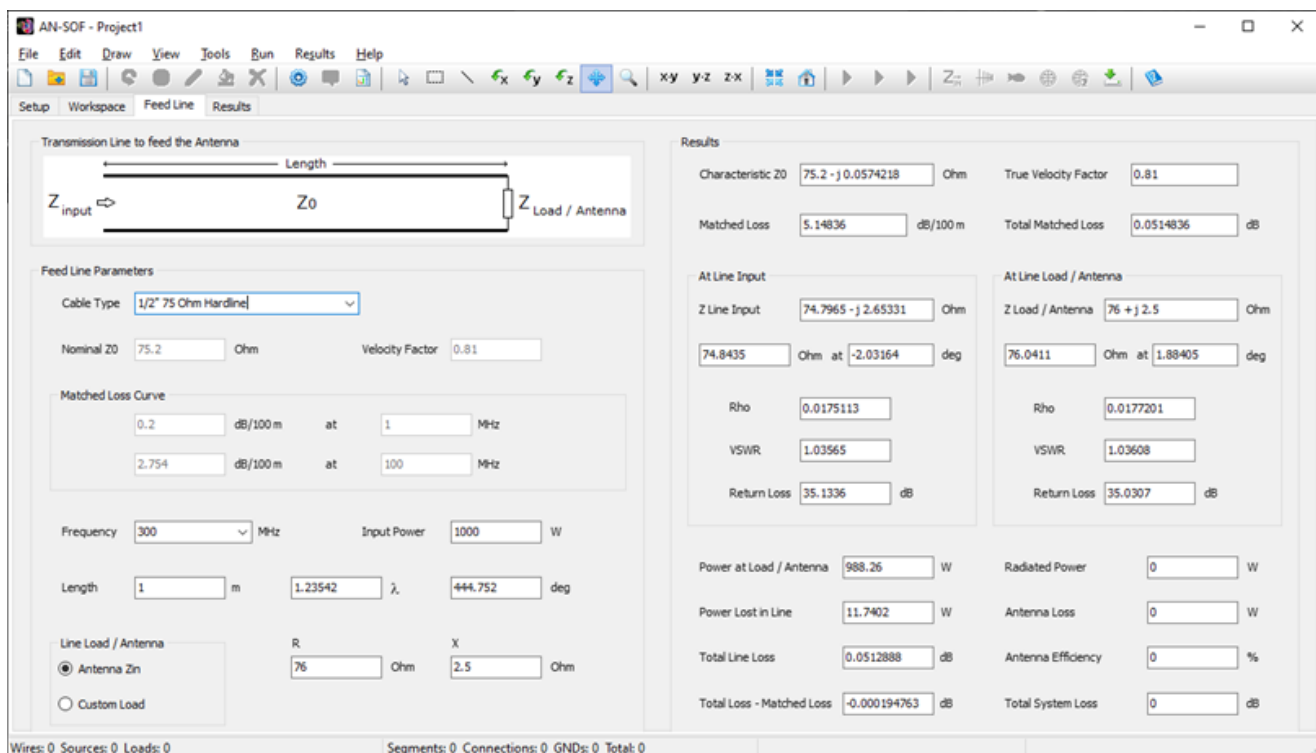

Fig. 1: Feed Line tabsheet where the transmission line used to feed a transmitting antenna can be modeled.
6. In the cells corresponding to **Att. 1**, **Freq. 1**, **Att. 2**, and **Freq. 2**, enter the values from the attenuation table so that **the simulation frequency range is included between Freq. 1 and Freq. 2**. For example, if you are running a calculation between 150 and 170 MHz, enter Att. 1 = 1.9 dB/100 ft, Freq. 1 = 100 MHz, Att. 2 = 2.8 dB/100 ft, Freq. 2 = 200 MHz, as indicated in the table for the Belden 8237 cable, Fig. 1.
Fig. 1: Entering the values of nominal characteristic impedance, velocity factor, and attenuation for a Belden 8237 cable, type RG-8/U, when the frequency sweep of the simulation is within the range of 100 to 200 MHz.
In the case of a transmitting antenna that has a single feed port, the transmission line used to feed the antenna can be modeled in the Feed Line tabsheet, Fig. 1.